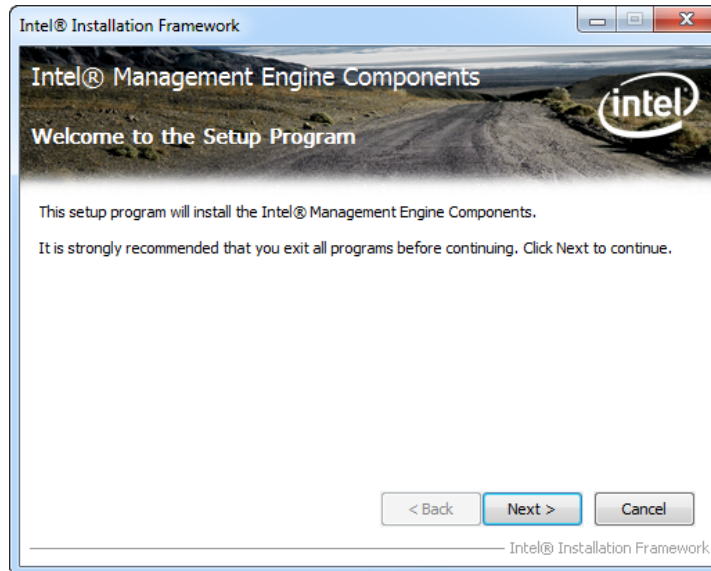

Figure 8-22: Intel® ME Driver Welcome Screen
Step 4: When the setup files are completely extracted the **Welcome Screen** in **Figure 8-22** appears.